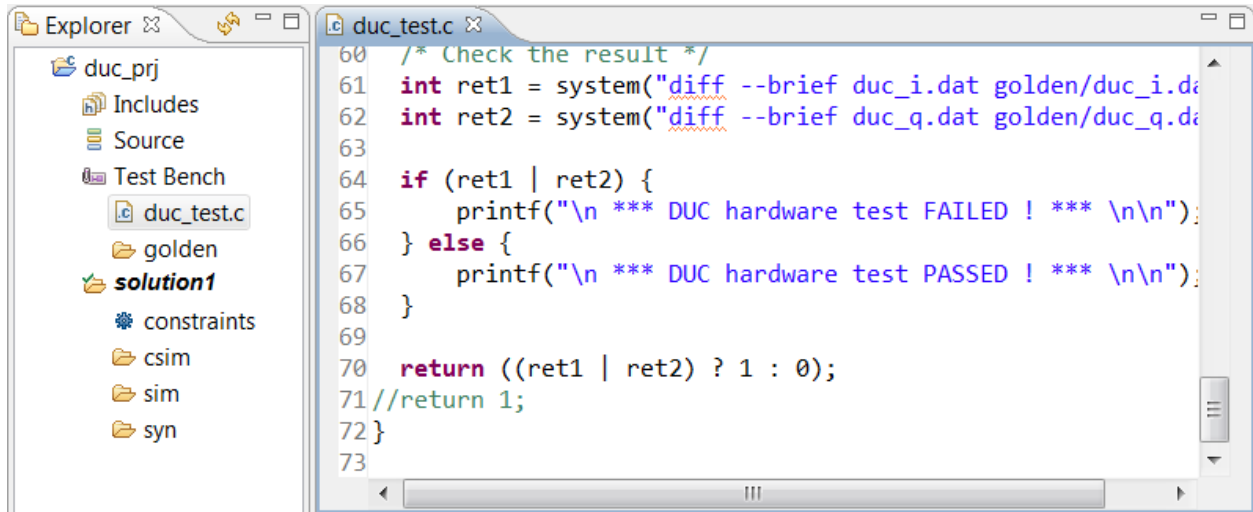

Figure 170: RTL Test bench
1. Expand the **Test Bench** folder in the **Explorer** pane (Figure 170).